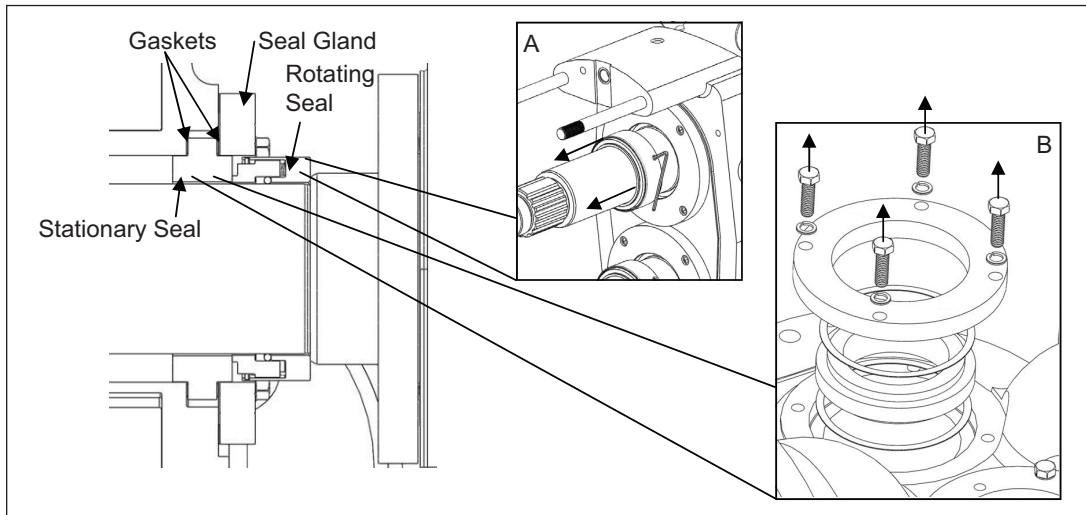

Figure 37. ZP1 320 Single Mechanical Seal Disassembly
**Disassembly:** The ZP1 320 single mechanical seal option consists of two mechanical seal sets (rotating seal and stationary seal), four gaskets, and two seal glands (Figure 37). There are also eight bolts and washers used to hold the stationary seal to the body. Remove the stationary seal from the shaft by loosening the set screws on the seal and sliding it off the shaft
(Figure 37, A). Next, remove the seal gland screws and washers, and remove the seal glands from the body (Figure 37, B). Remove and inspect the stationary (and rotating) seal for chipping, scratches or any other evidence of cracks on the seal face. If the stationary seal is worn, turn over and if there is no damage use this side.